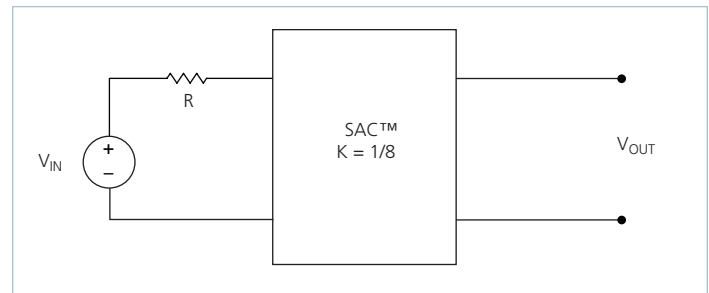

Figure 18 — K = 1/8 Sine Amplitude Converter™ with series input resistor
The use of DC voltage transformation provides additional interesting attributes. Assuming that  $R_{OUT} = 0\Omega$  and  $I_Q = 0A$ , Eq. (3) now becomes Eq. (1) and is essentially load independent, resistor R is now placed in series with  $V_{IN}$  as shown in Figure 18.
Assuming that  $R = 1\Omega$ , the effective R as seen from the secondary side is  $15.6m\Omega$ , with  $K = 1/8$  as shown in Figure 18.